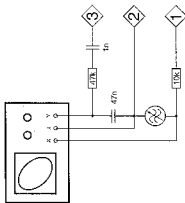

FIG. 1
- To adjust the focus- and track-control circuit use the measure circuit according to fig. 1 resp. fig. 2. Set the oscilloscope to X-deflection. The screen will show an ellipse.